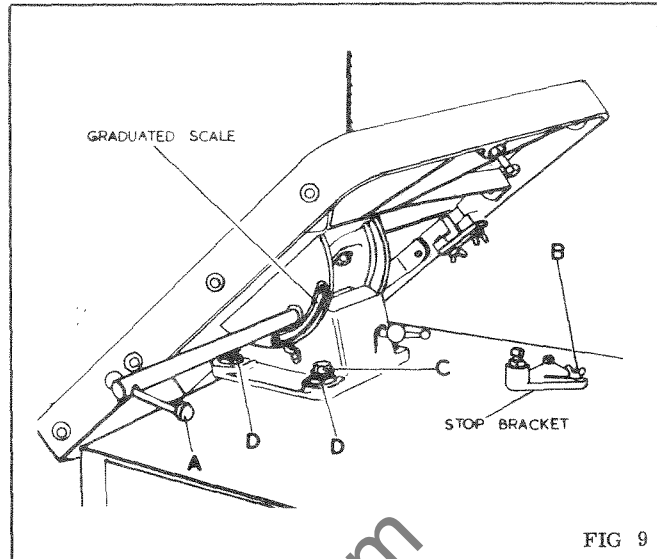

FIG 9
1. Loosen the table locking lever "A" in Fig. 9
1. Loosen wingnut "B" in Fig. 9 and swing stop bracket clear of the stop screw in the table.
If adjustment is necessary loosen the 4-3/8" whit bolts "C" in Fig. 9 and adjust the two fine thread adjusters "D" until table is correctly set. When set tighten all screws.